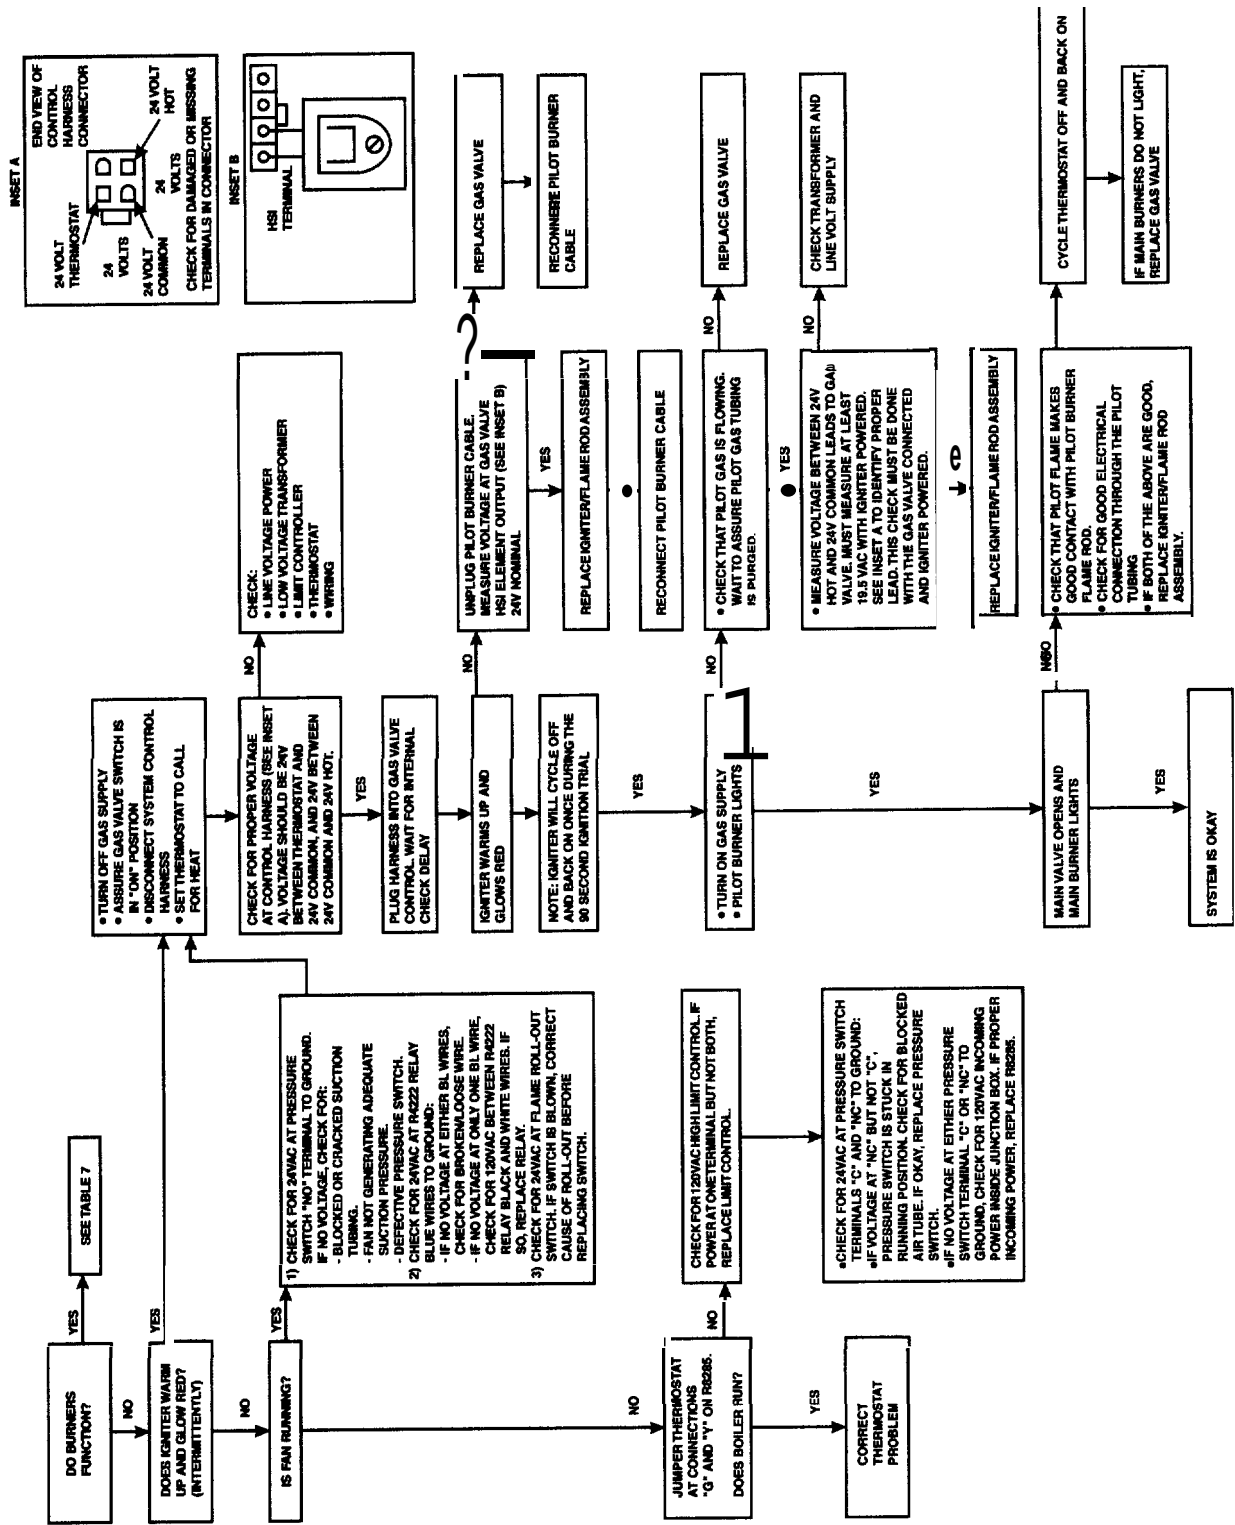

Figure 23: Boiler Troubleshooting Guide (Burners Not Functioning)
2. Check the pilot and main burner flame. See Figure 23. The pilot should provide a steady flame enveloping $3/8"$ to $1/2"$ of the flame sensor. If required, adjust the pilot as stated in the **gas** valve manufacturer's instructions. The main burner flame inner cone should be approximately $1-1/2"$ high and should have a very sharp, blue color characteristic.
Use Table 7 and Figure 23 to **assist** in determining **causes** and providing corrective actions to boiler problems. **These** guides must be **used** only by qualified service technicians. These individuals **must** follow **all** applicable codes and regulations in repair of any **boiler** problems.